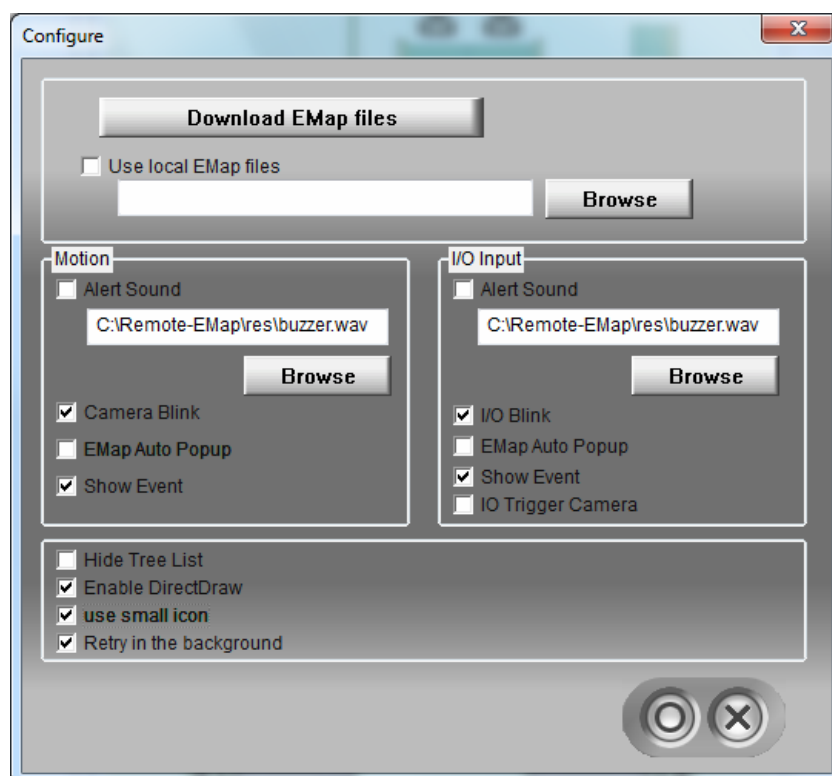

Figure 8-24
- To create E-Map(s), click the **New** button (No.3, Figure 8-24). For details, see *Creating an E-Map* earlier in this chapter.
- To create a user account for the server, click the **Accounts** button (No. 7, Figure 8-24).